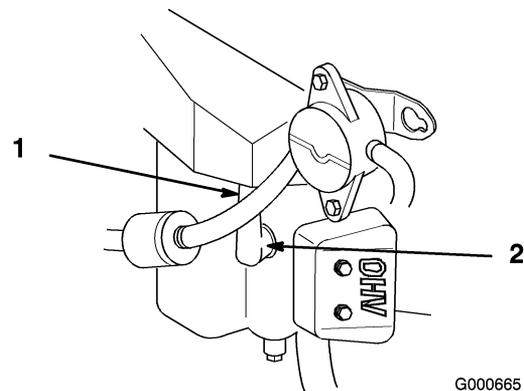

Figure 36
3. Pull the wire(s) off of the spark plug(s) (Figure 36). Clean around the spark plug(s) to prevent dirt from falling into the engine and potentially causing damage.
3. Push the wire(s) onto the spark plug(s) (Figure 36).